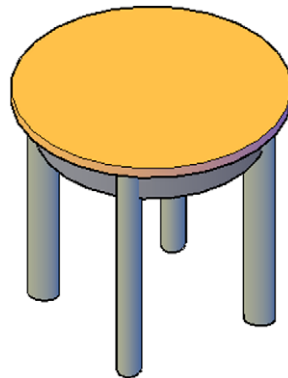

Fig. 15.40 A Conceptual shading of one of a table
5. Add suitable materials and render (Fig. 15.40).